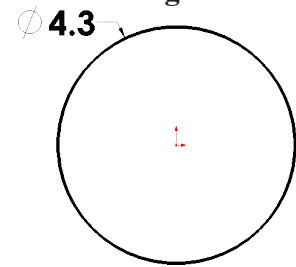

Fig. 2
Step 3. Click **Circle**  (S) on the Sketch toolbar.
Step 4. Draw a circle at Origin , **Fig. 2**.
Step 5. Click **Smart Dimension**  (S) on the Sketch toolbar.
Step 6. Dimension **diameter 4.3**, **Fig. 2**.